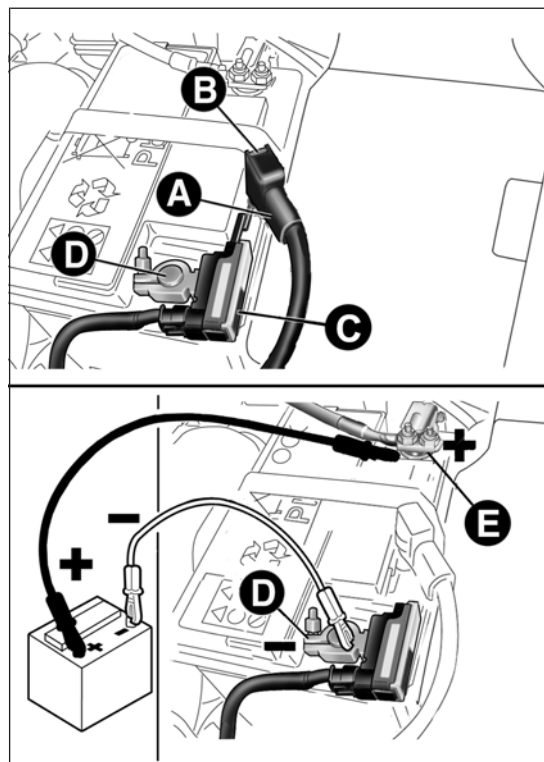

fig. 164
- disconnect the connector A fig. 164 (pressing the button B) from the sensor C monitoring the battery conditions, on the negative pole D of the battery;